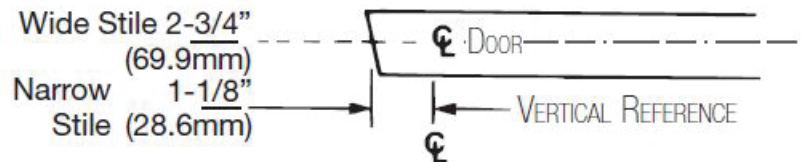

Figure 5
2. Locate and mark horizontal centerline and vertical centerline as shown in Figure 5.